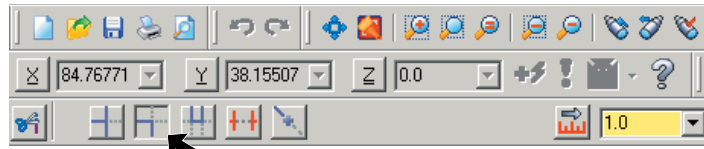

Fig. 47
Step 2. Click **Trim 2 Entity** button  (2) in the ribbon bar, **Fig. 47**.